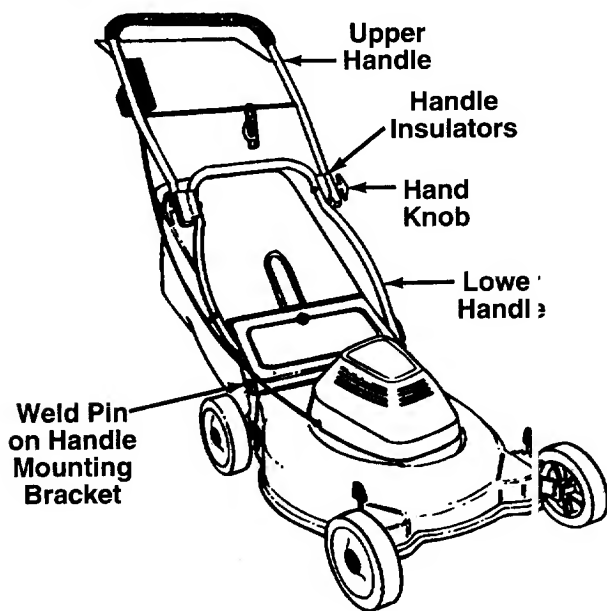

FIGURE 1.
- Pull up and back on the lower handle. Pivot the upper handle up to raise the handle into the operating position. See figure 1.